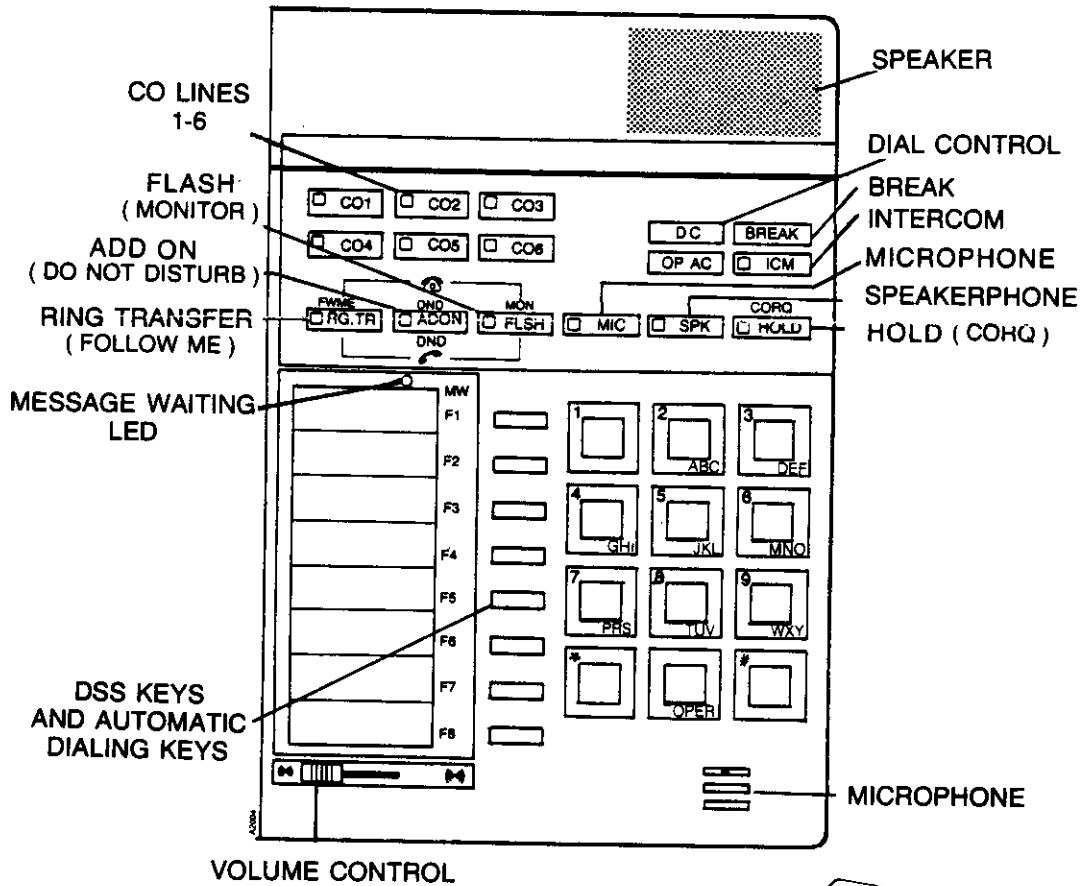

Figure 2-1 KEY TELEPHONE, EK-616, KEY DESIGNATIONS
2.02 The EK-616 Standard Key Telephone (Figure 2-1) contains a built-in microphone and speaker to allow handsfree reply on Intercom (ICM) calls. In addition to the dial pad, the telephones have keys that access CO lines, special function keys, and eight Direct Station Selection (DSS) keys which also provide the Automatic Dialer. Most keys are equipped with a Light Emitting Diode (LED) to indicate the status of the call or feature. Visual and audible signals provide various tone and flash patterns that distinguish outside, ICM and paging calls (Table 2-1 and 2-2). The volume level for audible signals and voice announcements can be adjusted with the slide volume control on the face plate of the telephone.